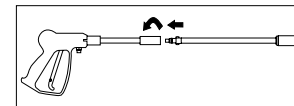

Figure 6 - Gun/Lance Connection
1. Insert lance into the gun and turn clockwise to positive stop as shown in Figure 6.